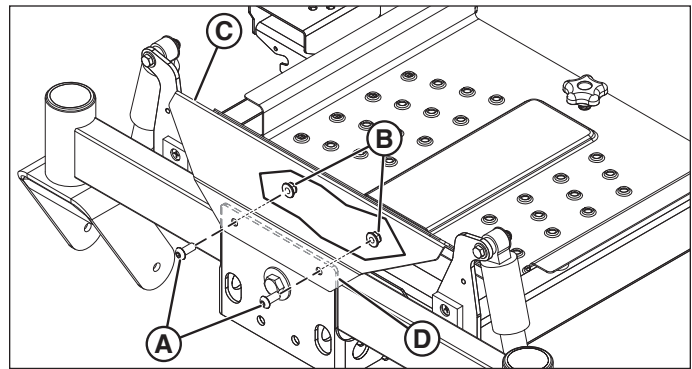

Figure 3. Remove Floor Pan Hardware
9. Remove the two (2) 3/8 screws (**A**, **Figure 3**) and the two (2) 3/8 nuts (**B**) from the foot rest (**C**) and the foot rest bracket (**D**).